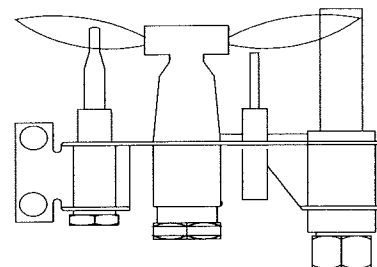

Figure 20. *Pilot Burner*
2. Adjust pilot key to provide properly sized flame. (*See figure 20.*)